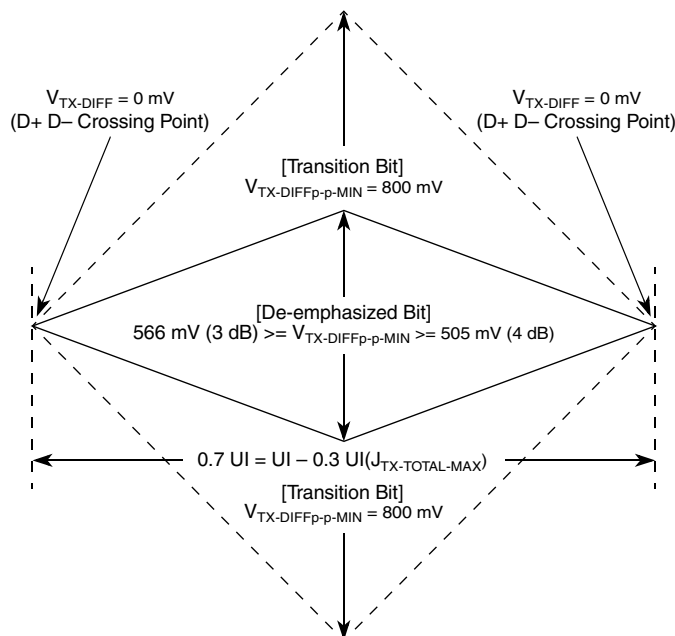
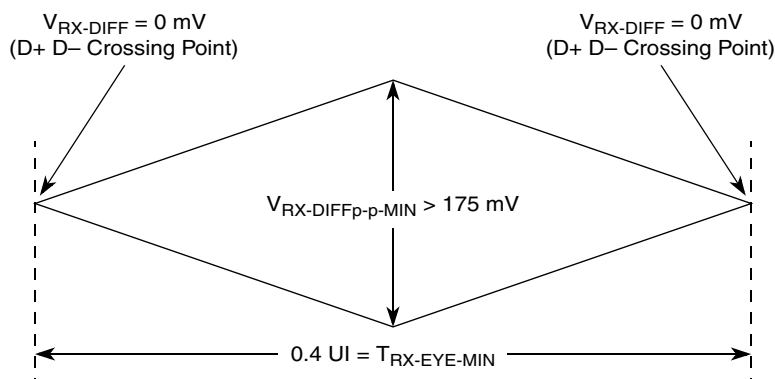
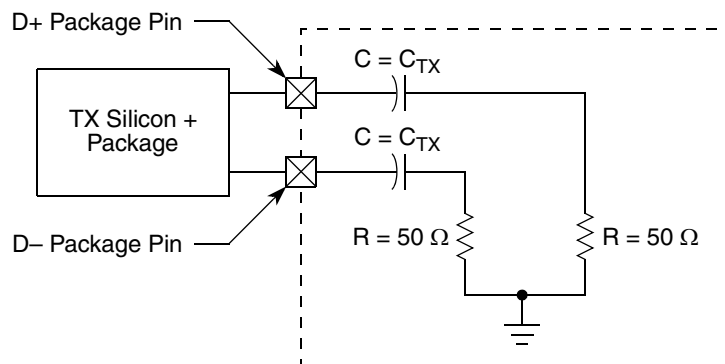

Figure 42. Minimum Transmitter Timing and Voltage Output Compliance Specifications
Figure 43. Minimum Receiver Eye Timing and Voltage Compliance Specification
Figure 44. Compliance Test/Measurement Load
2. Specified at the measurement point into a timing and voltage compliance test load as shown in Figure 44 and measured over any 250 consecutive Tx UIs. (Also refer to the transmitter compliance eye diagram shown in Figure 42.)
4. The transmitter input impedance will result in a differential return loss greater than or equal to 12 dB and a common mode return loss greater than or equal to 6 dB over a frequency range of 50 MT/s to 1.25 GHz. This input impedance requirement applies to all valid input levels. The reference impedance for return loss measurements is 50 Ω to ground for both the D+ and D– line (that is, as measured by a vector network analyzer with 50- Ω probes, see Figure 44). Note that the series capacitors, C_{TX} , is optional for the return loss measurement.
5. Measured between 20%–80% at transmitter package pins into a test load as shown in Figure 44 for both V_{TX-D+} and V_{TX-D-} .
The Tx eye diagram in Figure 42 is specified using the passive compliance/test measurement load (see Figure 44) in place of any real PCI Express interconnect + Rx component. There are two eye diagrams that must be met for the transmitter. Both diagrams must be aligned in time using the jitter median to locate the center of the eye diagram. The different eye diagrams differ in voltage depending on whether it is a transition bit or a de-emphasized bit. The exact reduced voltage level of the de-emphasized bit is always relative to the transition bit.
2. Specified at the measurement point and measured over any 250 consecutive UIs. The test load in Figure 44 should be used as the Rx device when taking measurements (also refer to the receiver compliance eye diagram shown in Figure 43). If the clocks to the Rx and Tx are not derived from the same reference clock, the Tx UI recovered from 3500 consecutive UI must be used as a reference for the eye diagram.
4. The receiver input impedance will result in a differential return loss greater than or equal to 10 dB with the D+ line biased to 300 mV and the D– line biased to –300 mV and a common mode return loss greater than or equal to 6 dB (no bias required) over a frequency range of 50 MT/s to 1.25 GHz. This input impedance requirement applies to all valid input levels. The reference impedance for return loss measurements for is 50 Ω to ground for both the D+ and D– line (that is, as measured by a vector network analyzer with 50- Ω probes, see Figure 44). Note that the series capacitors, C_{TX} , is optional for the return loss measurement.
The Rx eye diagram in Figure 43 is specified using the passive compliance/test measurement load (see Figure 44) in place of any real PCI Express Rx component. In general, the minimum receiver eye diagram measured with the compliance/test measurement load (see Figure 44) is larger than the minimum receiver eye diagram measured over a range of systems at the input receiver of any real PCI Express component. The degraded eye diagram at the input receiver is due to traces internal to the package as well as silicon parasitic characteristics that cause the real PCI Express component to vary in impedance from the
compliance/test measurement load. The input receiver eye diagram is implementation specific and is not specified. Rx component designer should provide additional margin to adequately compensate for the degraded minimum receiver eye diagram (shown in Figure 43) expected at the input receiver based on an adequate combination of system simulations and the return loss measured looking into the Rx package and silicon. The Rx eye diagram must be aligned in time using the jitter median to locate the center of the eye diagram.
The reference impedance for return loss measurements is 50 Ω to ground for both the D+ and D– line (that is, as measured by a Vector Network Analyzer with 50 Ω probes—see Figure 44). Note that the series capacitors, $C_{PEACCTX}$, are optional for the return loss measurement.
The AC timing and voltage parameters must be verified at the measurement point, as specified within 0.2 inches of the package pins, into a test/measurement load shown in Figure 44.